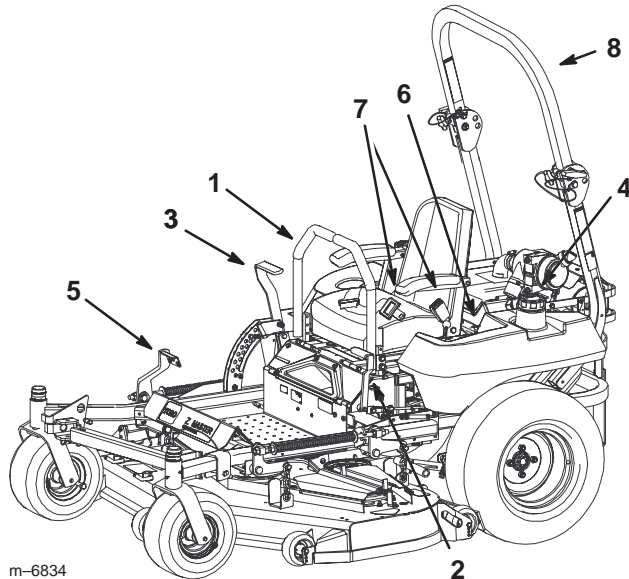

Figure 7
Become familiar with all the controls before you start the engine and operate the machine (Figures 7 and 8).
1. Move the motion control levers (Fig. 7) out to the neutral lock position.